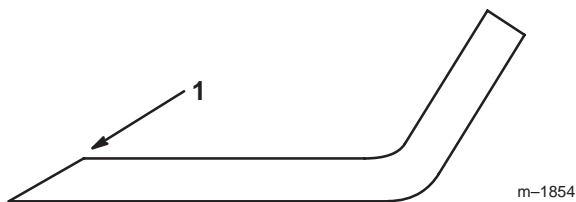

Figure 64
1. Use a file to sharpen the cutting edge at both ends of the blade (Fig. 64). Maintain the original angle. The blade retains its balance if the same amount of material is removed from both cutting edges.